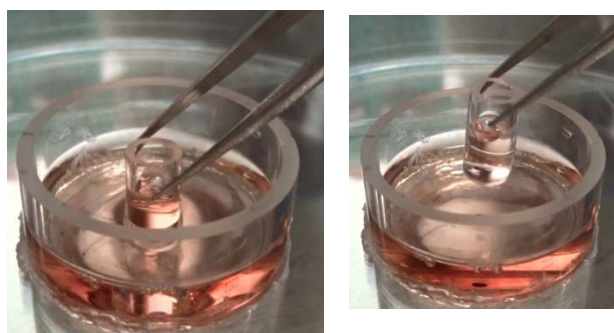

Figure 5. Removing the cloning ring.
5. Remove the cloning ring gently (Figure 5).